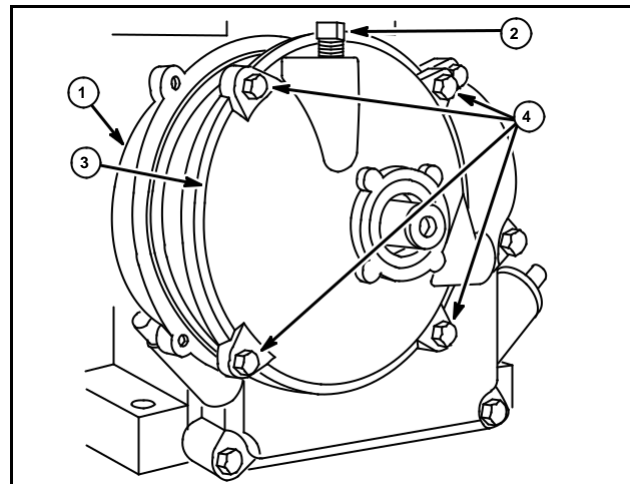

Fig. 26
2. Remove oil vent plug (2).
3. Loosen four gear case cover screws (4).
4. Break cover (3) loose from gear case (1) assembly to drain gear case.
5. After gear case is drained, remove screws and cover, Fig. 26.